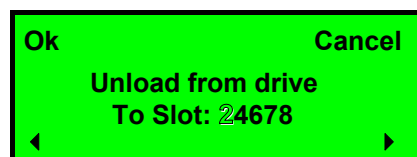

Figure 4.12 Load to Drive
1. From the default display, press the menu button and select *Unload from Drive* from the main menu. A screen picture like figure 4.12 will be displaying the available slots.